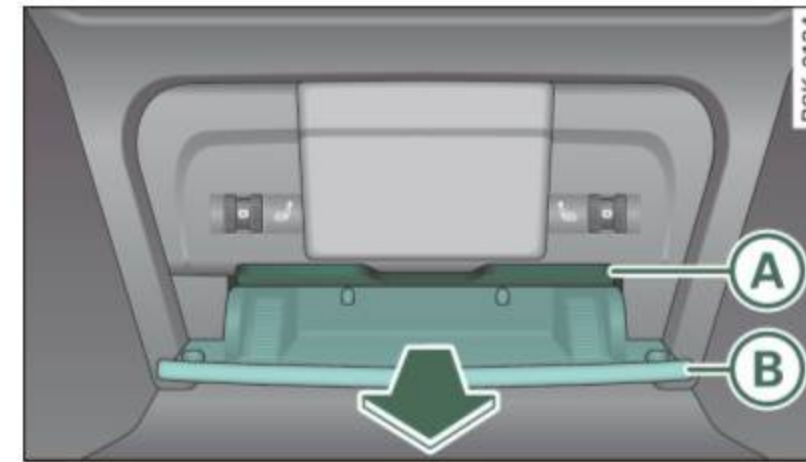

Fig. 102 Rear ashtray
- Pull the ashtray by the rim (B) ⇒ fig. 102 in the direction of the arrow.